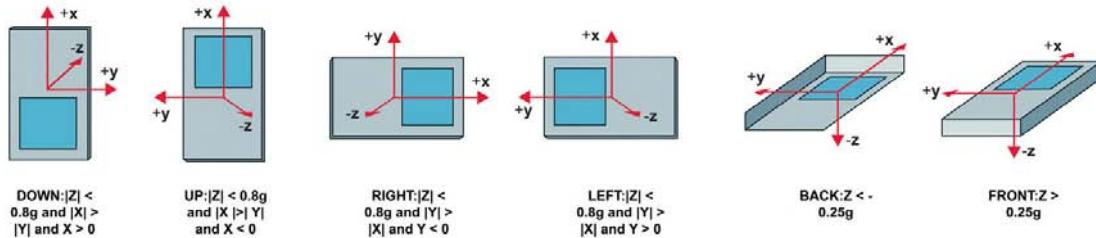

Figure 11. Orientation of 6 Positions on the Device.
2. Move the device in the 6 different positions: Back, Front, Left, Down, Right, and Up (Figure 11) and watch as the graphic and wording changes based on the position that the board is being held. The graphic directly shows the position the board is being held.
1. Hold the board so the position is in the Front position (Figure 11). The DIP board is facing front. Observe that the ring mode is Normal.
2. Rotate the board so that it is in the Back position (Figure 11). The board is upside down. Observe the ring mode change to Silent.
Back is defined as $Z < -.25 g$. Front is defined as $Z > .25 g$. Rotate the Z-axis to transition between back/front to understand the functionality (Figure 11).
The orientation threshold shows that $|Z| < .8 g$. Rotate the board to move the X, Y, and Z-axis to transition the Up, Down, Left, Right positions (Figure 11). In the condition where $|Z| > .8g$, the device is in a flat position and it does not output new orientation positions.
Move the device in the 6 different positions: Back, Front, Left, Down, Right, and Up (Figure 11) and watch as the graphic and wording changes based on the position that the board is being held. The graphic directly shows the position the board is being held.